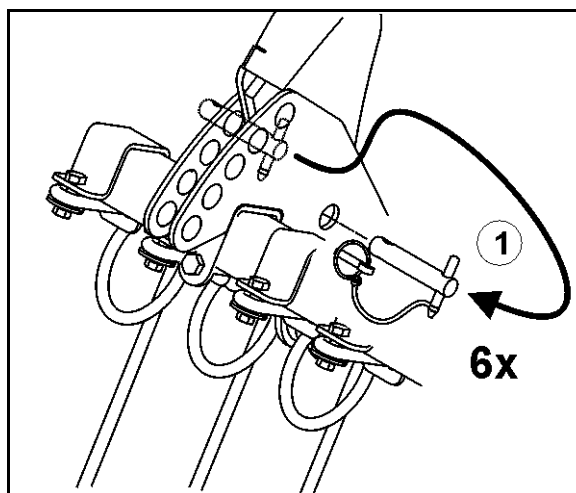

Fig. 32
3. Secure the rear harrow with pin (Fig. 32/1) in transport position and secure with clip pin.